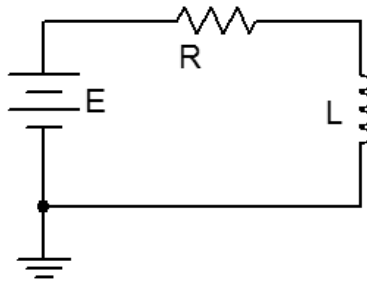

Figure 1.1
1. Using figure 1.1 with  $E=10\text{ V}$ ,  $R=47\text{ k}\Omega$ , and  $L=10\text{ mH}$ , calculate the time constant and record it in Table 1.1. Also, calculate and record the expected steady state inductor voltage in Table 1.2.